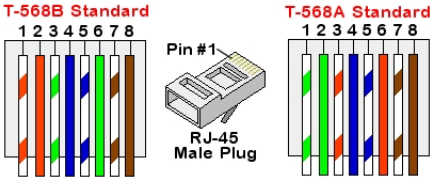

Figure 28: Standard cable wiring
- c. Insert the eight wires into an RJ45 connector, as described in *Figure 28*.
7. For the switch/router side, use a pre-terminated cable or use a crimper to prepare an RJ45 communication connector: Insert the eight wires into the RJ45 connector in the same order as above (*Figure 28*).